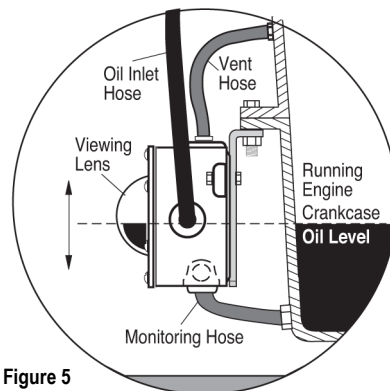

Figure 5
2. Attach the 1 inch (25 mm) diameter, flexible monitoring hose to the crankcase and the monitoring port on the LM2000. See Figure 5.
3. Install the 1/2 inch (13 mm) I.D. x 3 ft. (914 mm) hose to the vent connection on the LM2000 and to the vent connection on the crankcase. See Figure 5. **The vent connection on the crankcase must be well above the regulated oil level.** All hoses must be clear of obstructions, valleys, or dips that could create liquid traps, or gas/air pockets. The vent and crankcase connections should be as straight as possible.
4. Fill the crankcase to the proper oil level. With the engine running and warm, loosen the mounting bracket adjustment bolts and adjust the LM2000 so that the oil level in the sight gauge is aligned with the white “index line” on the dial (Figure 5). Tighten the adjustment bolts securely.
2. Connect a 1/2 inch I.D. (13 mm) or larger hose to the oil inlet fitting on the LM2000 and to the shutoff valve on the oil supply tank. See Figure 5. Recommended minimum height above the LM2000 is 2 ft. (0.6m); maximum 25 ft. (7.7m). The hose must maintain a downward slope and not have low spots or droops. Maximum head pressure rating is 9.50 psi or 25 ft oil (head pressure).